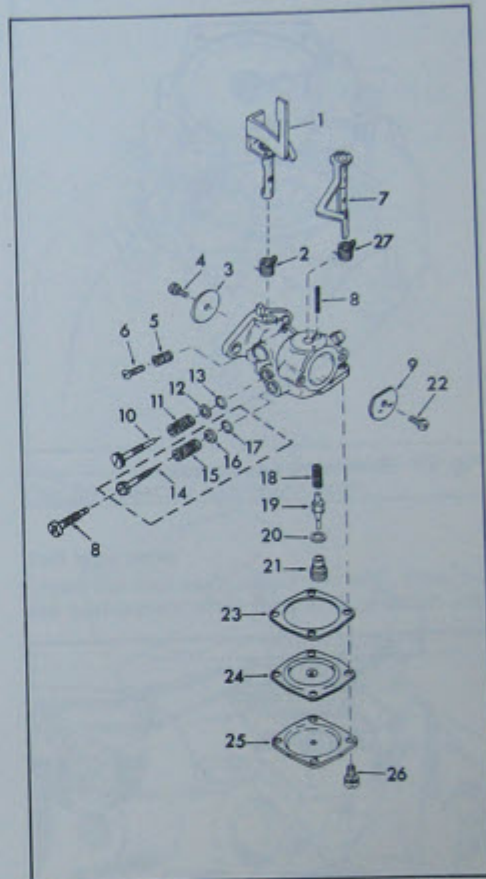
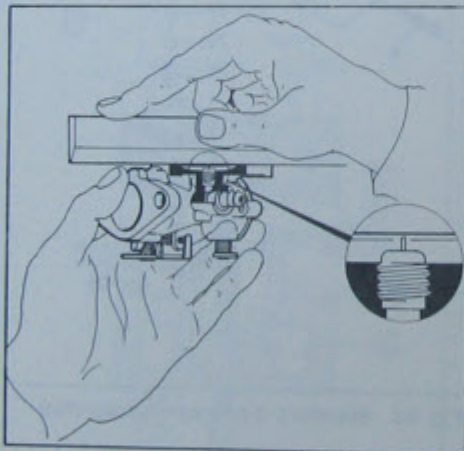

Fig. 23 Standard diaphragm carburettor
Fig. 25 Needle valve setting
To clean carburettor (see Fig. 23) proceed as follows:
- Reassemble, referring to Fig. 23, making sure that valve (21) and needle (19) are not damaged or bent. The needle (19) should protrude approx. level with the carburettor face, (see Fig. 25). If needle is sunk, this denotes that gasket (20) has not been fitted or that the needle is worn. If needle projects, it is possible that two washers have been fitted.